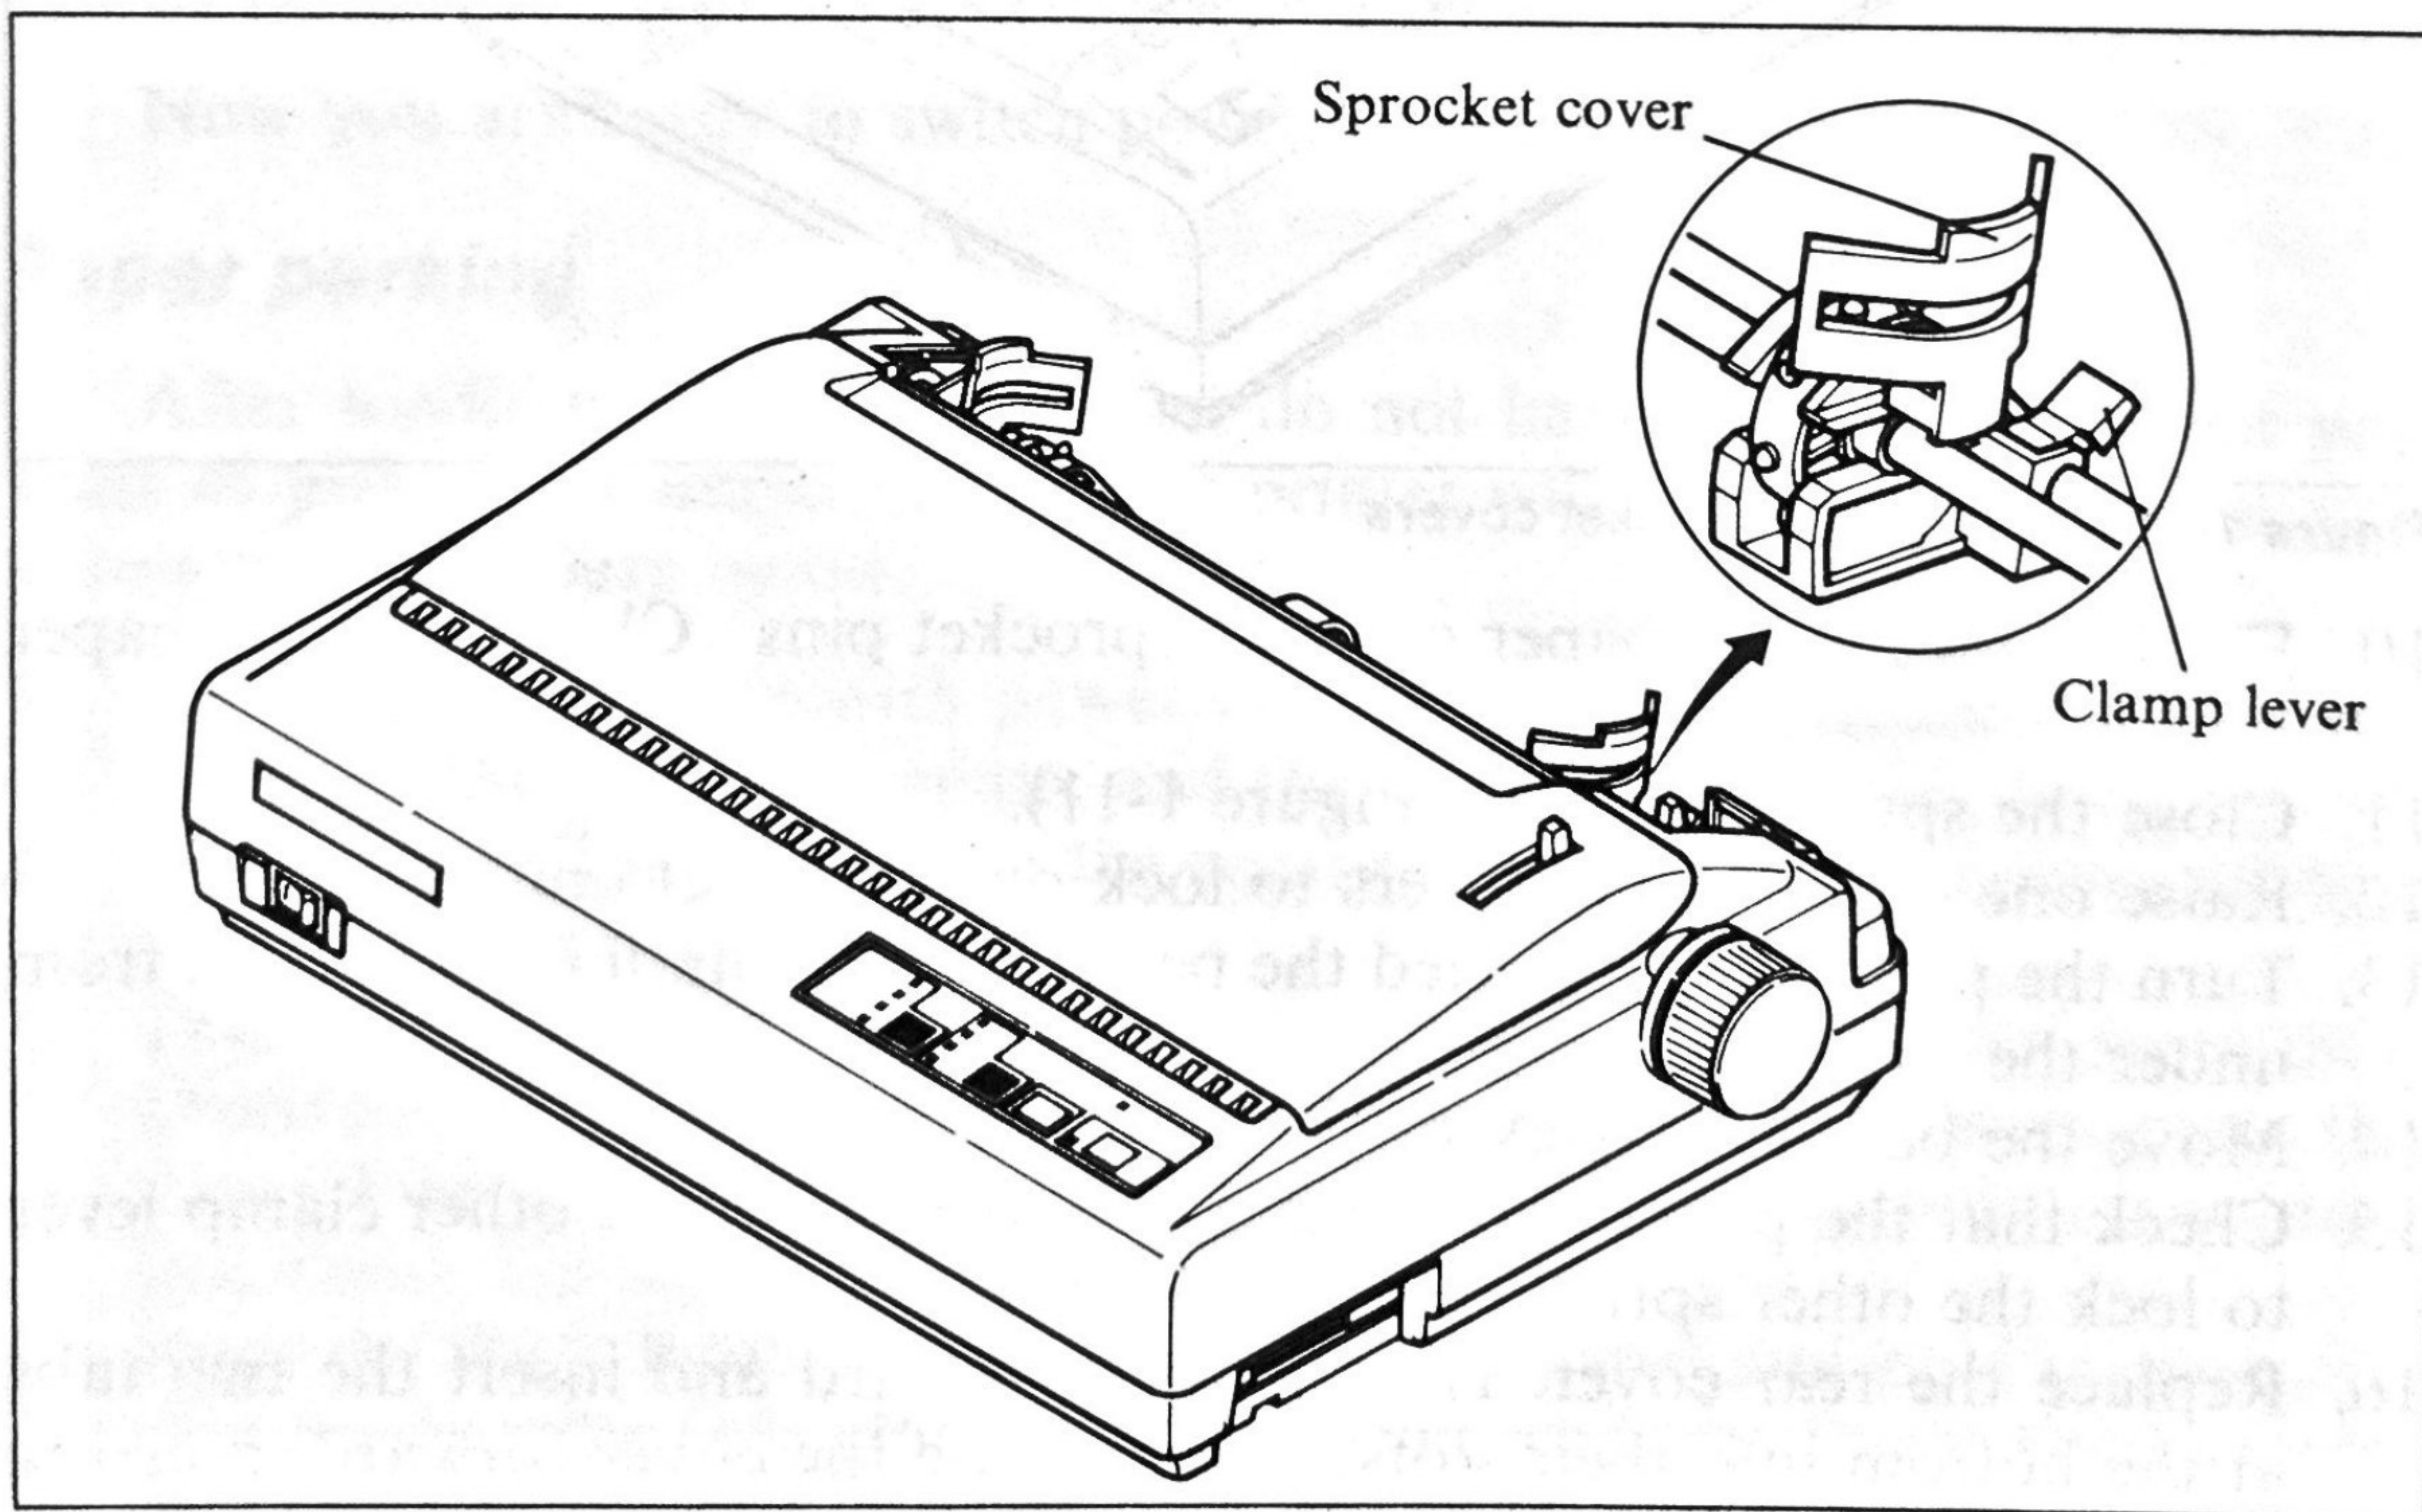

Figure 1-10. Opening the sprocket covers to expose the sprocket teeth
7. Open the sprocket covers on the right and left sprocket units, as shown in Figure 1-10.